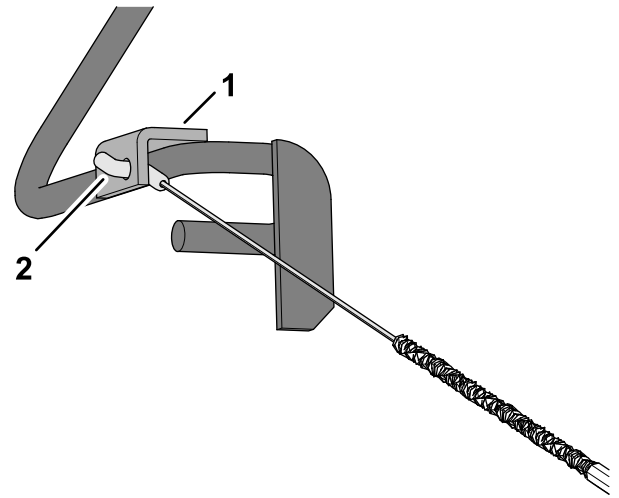

Figure 10
- Insert the cable fitting through the hole in the bracket of the operator-presence bail as shown in Figure 10.